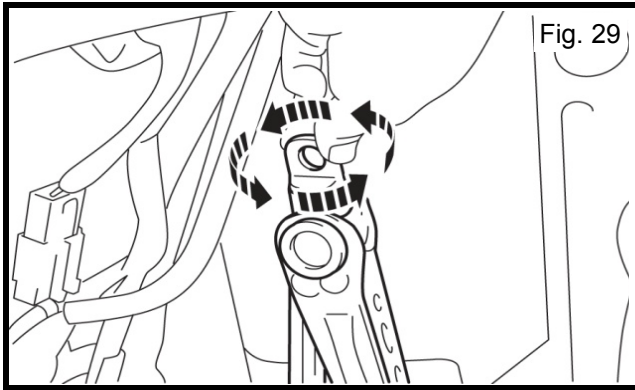

Fig. 29
- a) Loosen the jack by turning the scissor mechanism counterclockwise to release as shown in Fig. 29.
- b) Remove the jack from the storage compartment as shown in Fig. 29.